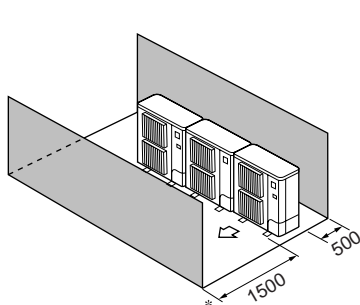

Fig.2-13
- Obstacles at front and rear only (Fig. 2-13)